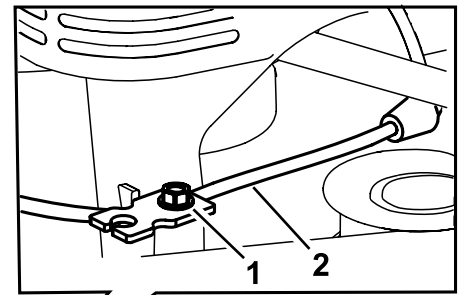

Figure 41
5. Loosen the cable-clamp screw (Figure 41).